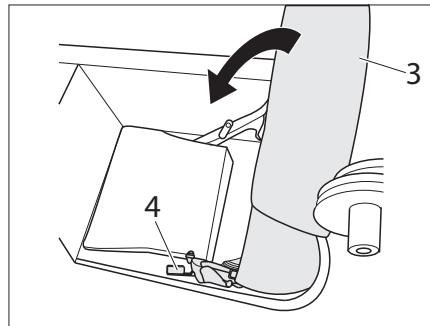

Fig. 225 Move the seat back into the storage box
- Engage lever 2 (Fig. 225,4) and move the seat back (Fig. 225,3) into the storage box.